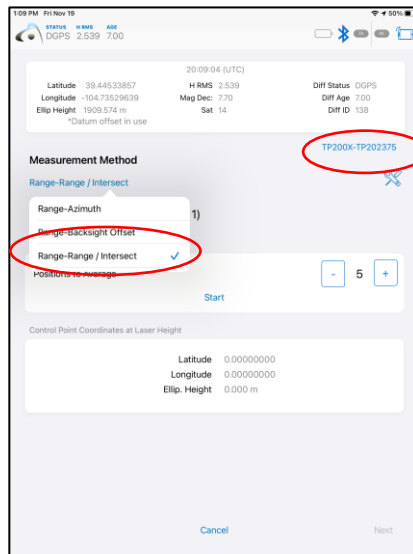

Figure 9A
- 9A. Pull down the **Measurement Method** menu; choose **Range-Range/ Intersect** and confirm the laser is connected (Figure 9A)